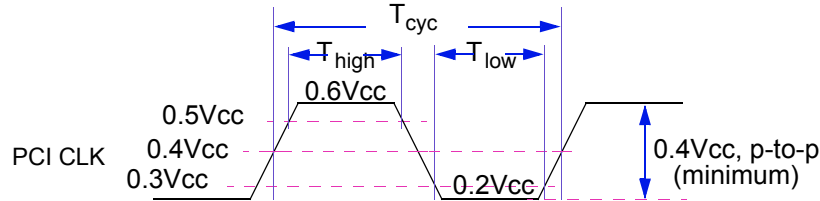

Figure 10. PCI CLK Waveform
2. Rise and fall times are specified in terms of the edge rate measured in V/ns. This slew rate must be met across the minimum peak-to-peak portion of the clock waveform as shown in Figure 10.